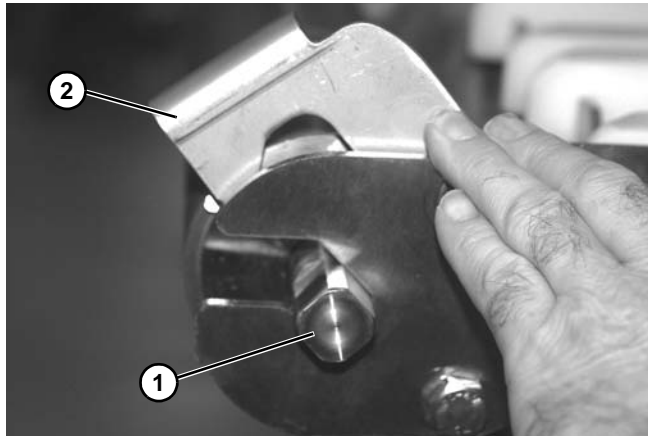

Figure 62
Note the square end (**Figure 62, item 1**) of drive spindle orientation in slotted brackets (**Figure 62, item 2**) as you are moving the drive assembly from conveyor.